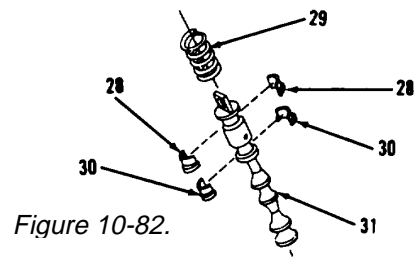
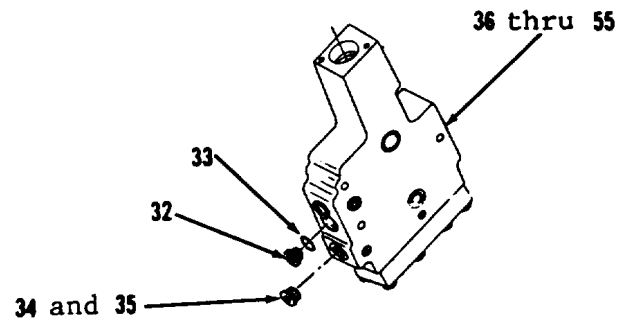

Figure 10-82.
Figure 10-83.
14. Remove plug (26) and preformed packing (27). Discard preformed packing (27).
15. Remove items 28 thru 31 as an assembly from items 32 thru 55 as an assembly.
16. Compress spring (29, Figure 10-82).
17. Remove two retainers (28).
18. Remove spring (29) and two retainers (30) from stem (31).
19. Remove two plugs (32) and preformed packings (33, Figure 10-83). Discard preformed packings (33).